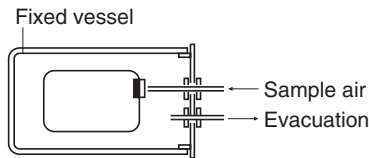

FIG 4.4 COLLECTION BY BAG
- (2) The sample is sometimes adsorbed to the diaphragm of the diaphragm pump for sampling into a bag. Instead of the diaphragm pump, therefore, the bag shall be placed in a vessel which will be evacuated as shown in FIG. 4.4.